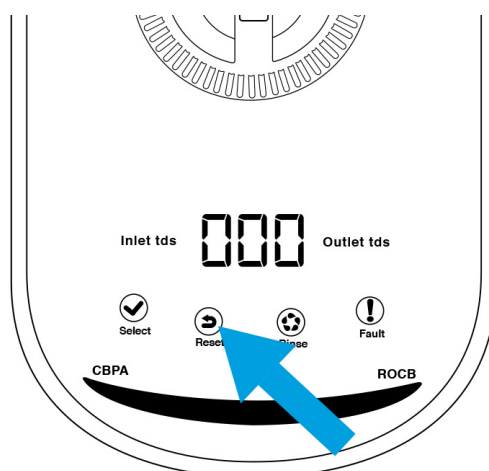

Figure 13
1. Press the filter life reset indicator for 5 seconds (Figure 13). Release the indicator when you hear a beep. Now filters are ready to be reset;